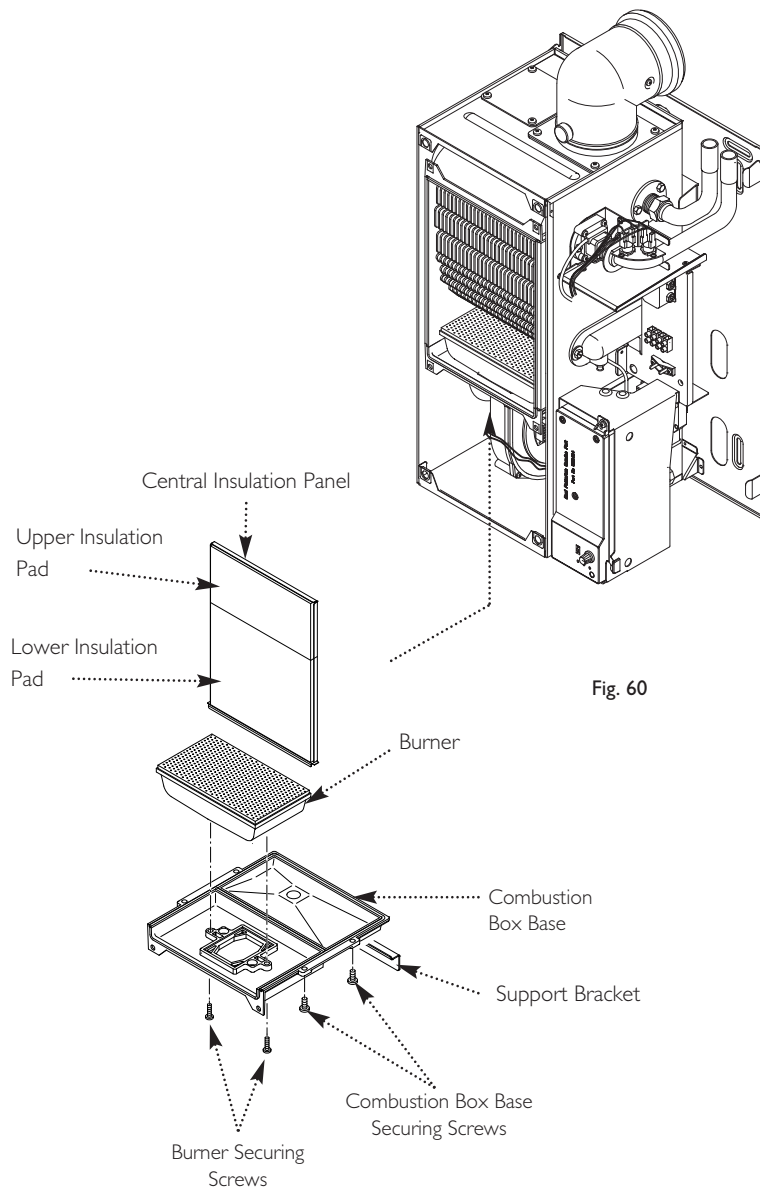

Fig. 60
13.12 Heat Exchanger Lower Insulation Pad (Fig. 60)
13.13 Heat Exchanger Upper Insulation Pad (Fig. 60)